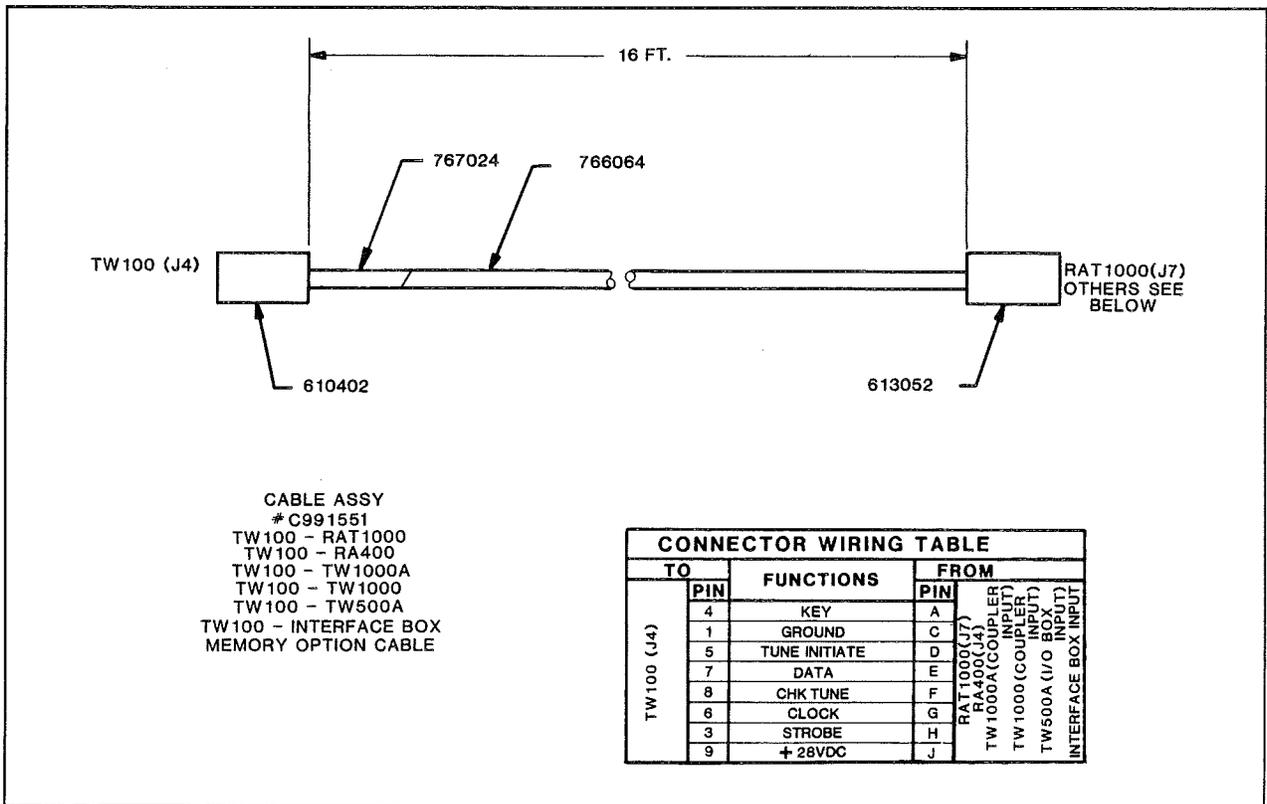

FIGURE 3-10. Memory Option Cable (C991551).
3. C991551 -- See Figure 3-10.
4. C991551 -- See Figure 3-10.